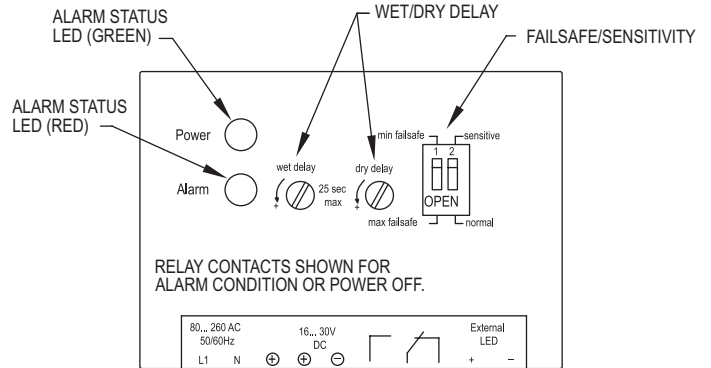

Figure 4: Switches and LED's
CONTROLS AND INDICATORS (See Figure 4)
- Fail Safe Mode Selection:** The relay will always be off when the power fails. In this case the contacts identified as normally open will be open. The fail safe switch \ selects whether the normally open contacts are open or closed when the probe is uncovered. There are two options for the failsafe condition that are selected by the RELAY DIP switch (See Figure 4). Selecting MAX will force the relay contacts to be open when the probe is uncovered and the NORMAL green LED to be on. Selecting MIN will energize the relay (closed) when the probe is uncovered and the ALARM red LED to be on.
2. Sensitivity Selection: The sensitivity selection adjusts the fork sensitivity to material bulk density. The more dense the material, the lower the sensitivity needed. After installing the probe and making all electrical connections, set the Fail Safe Selection switch to the MAX position. Set both the wet and dry time delays to their minimum by rotating them counter-clockwise to the end position. Adjust dip switch sensitivity to normal (See Figure 4). If there is no material in the tank then the green LED will be illuminated. Fill the tank so that the fork tines are covered by material. If the green LED turns off and the red LED turns on then no adjustments are necessary. If the green LED stays on adjust dip switch sensitivity to sensitive, the green LED goes out and the red LED comes on. Setting is completed.